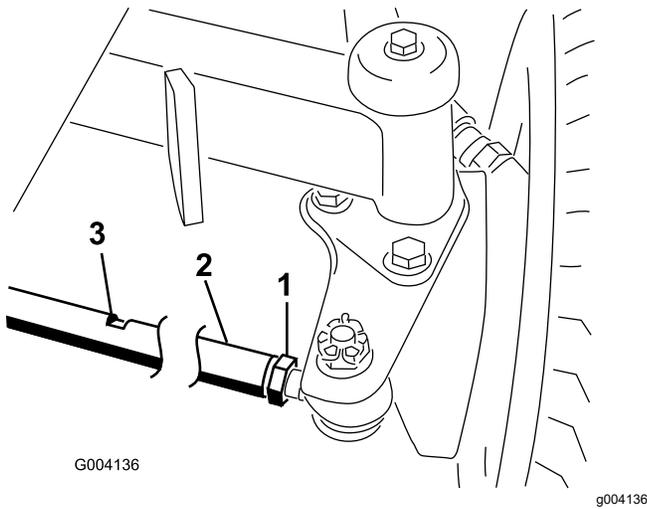

Figure 108
- Loosen the jam nut on each end of the tie rod (Figure 108).